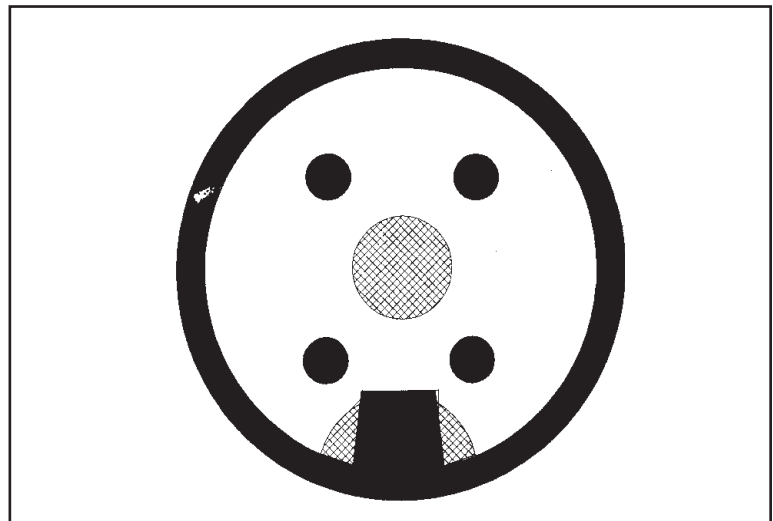

Figure X-30 Correct location for silicone dielectric compound on LM bulkhead connector.
P. Place silicone grease (part# 48-0001) in the bulkhead connector. This will prevent water penetration and dry rot. (Fig. X-30)